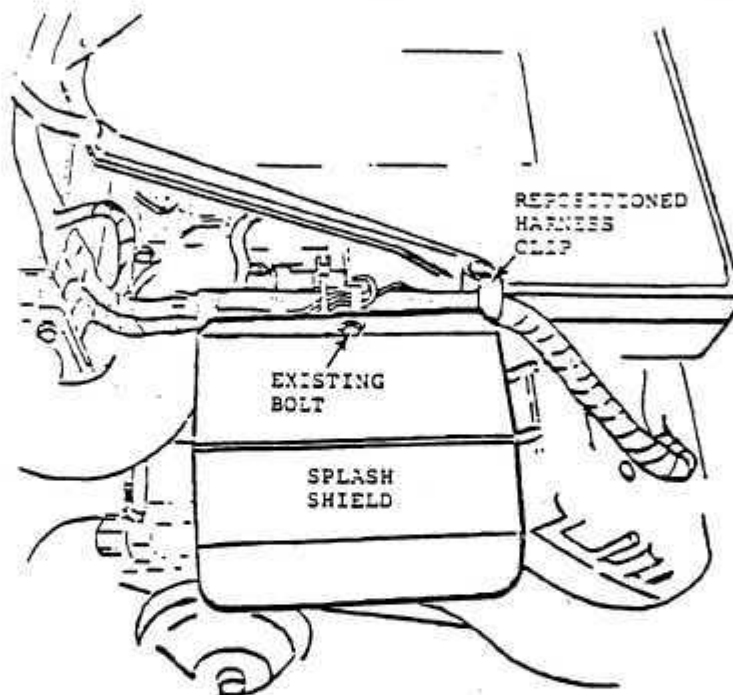

FIGURE 3
16. Install the splash shield (P/N 111184) to the air inlet manifold using existing bolt as shown in Figure 3. Ensure the installation is firmly located and free from vibration.
17. Relocate the wiring harness away from edge of splash shield using one of the harness retention clips as shown in Figure 3.